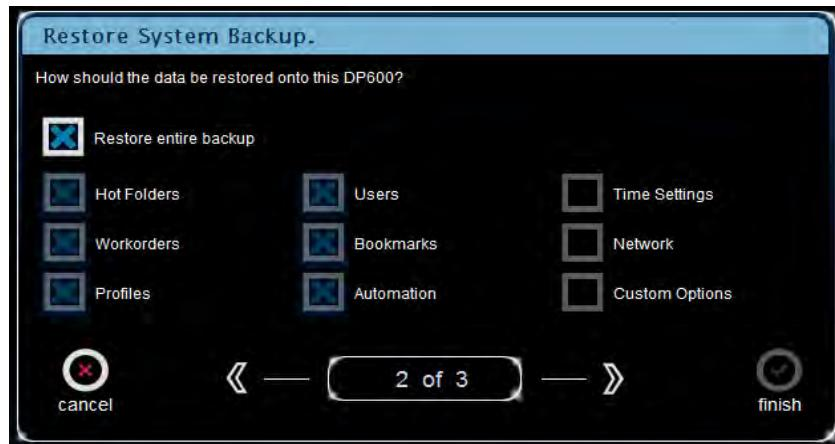

Figure 3-26 Restore Options Screen
6. Click the highlighted arrow to access the second **Restore System Backup** screen, as shown in Figure 3-26, and then select the elements you want to restore.